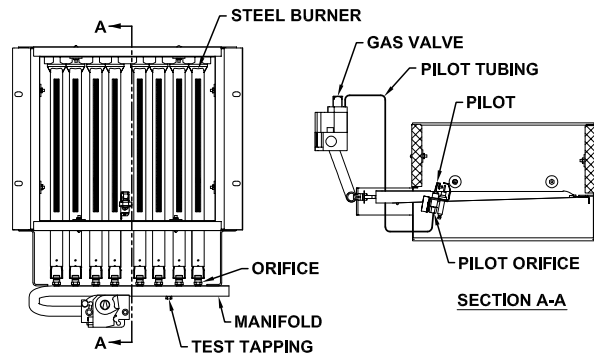

Figure 7.1: Gas Valve, Manifold and Burner Assembly
14. The gas manifold and control assembly are made of gas-tight, completely factory assembled and installed components of the base assembly. See Figure 7.1.